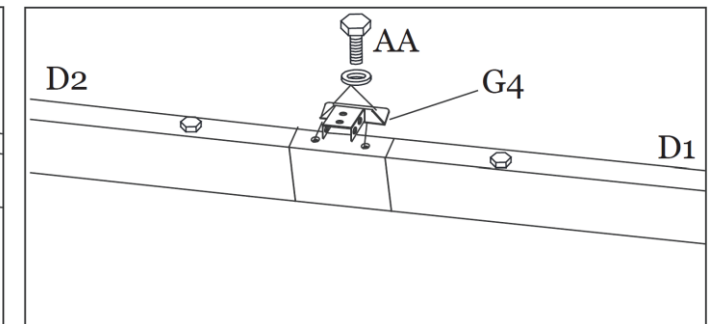

Figure 2-4
Step 2D: Attach the Top Lintel Bracket (G4) on top of Lintel Cover (H2) using Bolts/Washers (AA). **Tighten all Bolts.** See Figure 2-4. Repeat Step 2A to Step 2D for remaining Short Lintels (D1 and D2).